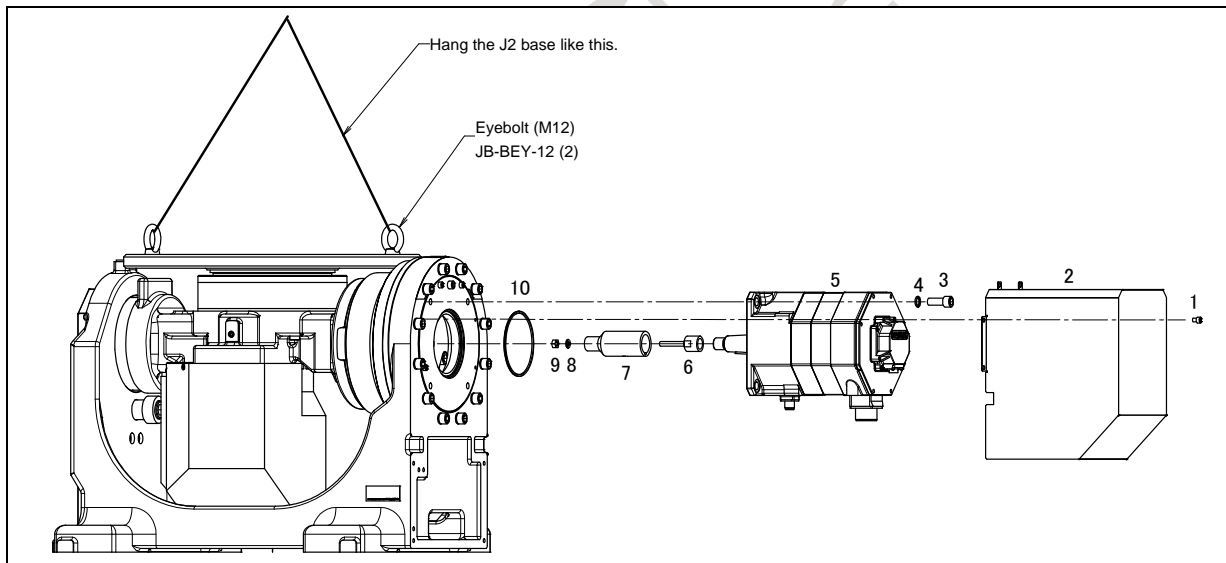

Fig. 6.1 (a) Replacing the J1-axis motor
- 3 Hoist the positioner with J2 base as shown in Fig. 6.1 (a).
- 4 Remove the ten motor cover mounting bolts (1) and remove the motor cover (2).
- 6 Remove the four motor mounting bolts (3) and washers (4) and then remove the J1-axis motor (5). Remove the motor from the J1 unit. Note that grease spills during removal of the motor.
- 7 Remove the O-ring (10).
- 8 Apply LOCTITE 243 to the shaft of a new motor, attach the gear (7) and draw bolt (6), and fix the new motor to the J1 base with four motor mounting bolts (3) and washers (4). At this time, replace the O-ring (10) with a new one and attach it to the prescribed position.
- 10 Attach the motor cover (2) to the J1 base with the ten motor cover mounting bolts (1).